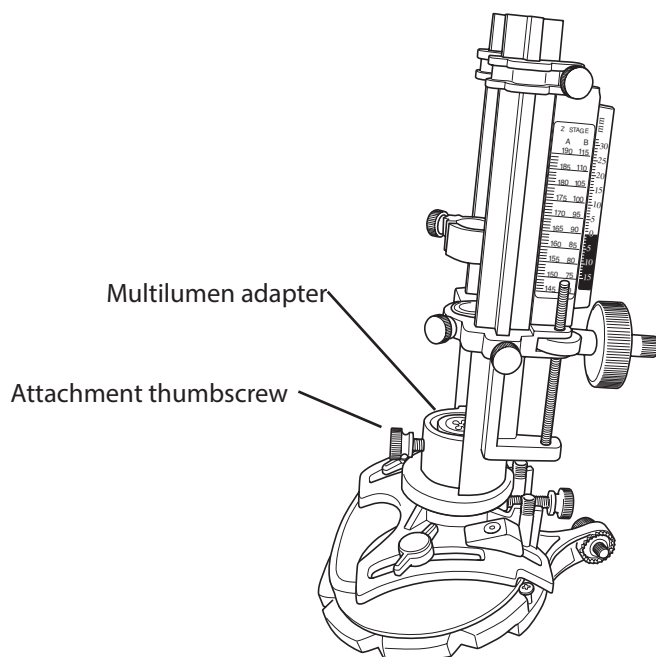

Figure 22. Attach the drive to the multilumen adapter and tighten the attachment thumbscrew.
2. Attach the drive to the multilumen adapter and tighten the attachment thumbscrew (Figure 22).